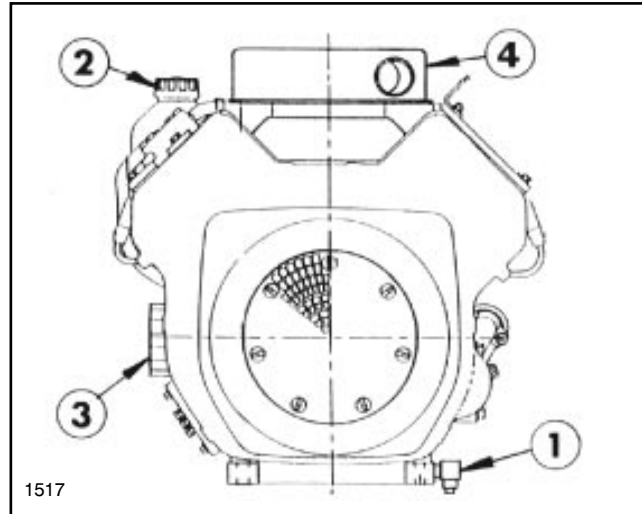

FIG. 11
1. Have machine on a level surface. While engine is warm, drain the crankcase by removing the oil drain plug, oil fill cap and dipstick. Be sure to allow ample time for complete drainage. See FIG. 11.